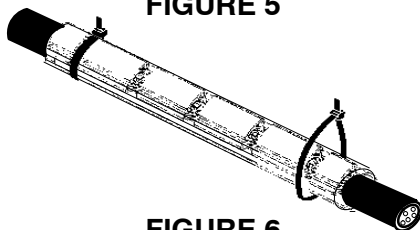

FIGURE 6
6. Install cable ties at outer most notches of the snap locks. Splice is complete and ready for use. See Figure 6.